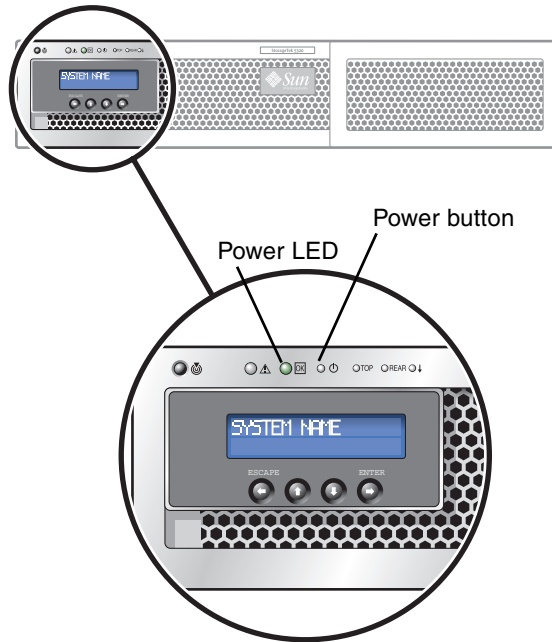

FIGURE 3-12 Power Button and Front Panel Detail
7. Using a pen tip or similar implement, press the recessed Power button (FIGURE 3-12).